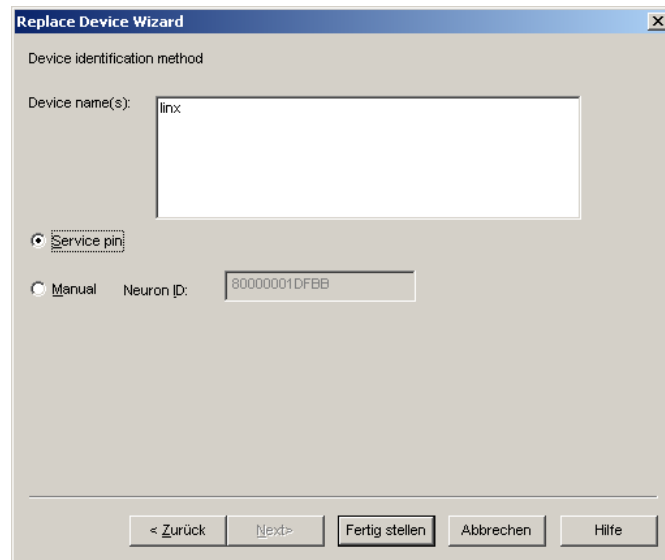

Figure 90: Select Service Pin and click Finish.
6. Select the **Service pin** method and click on **Finish** as shown in Figure 90.